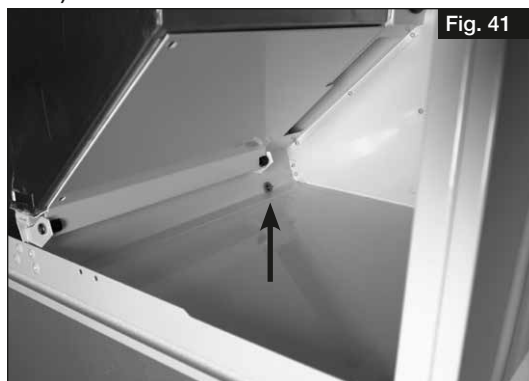
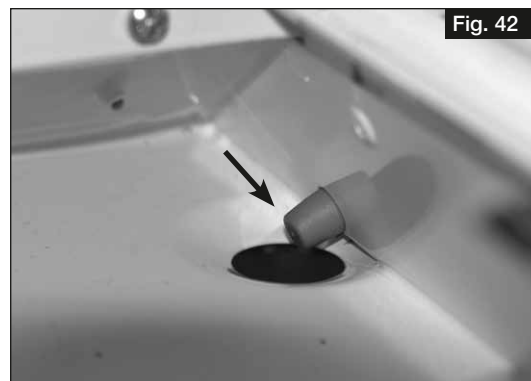

Fig. 41
Fig. 42
- ① If the cold recovery system is activated, the plug at the bottom of the unit must be removed (see Fig. 41, Fig. 42 on page 27) to ensure the condensate drainage (cf. also chapter 4.3 „Install ball siphon“, page 11).